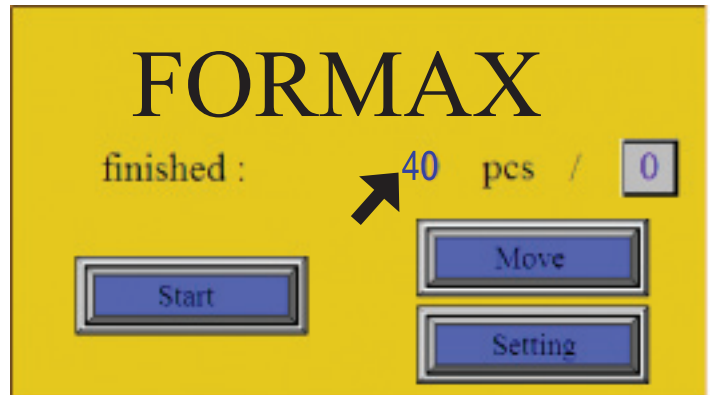

Fig. 6: Counter Reset
1. To reset the counter, press the blue number to the left of the "pcs" icon on the main screen (fig. 6), which is the number of pieces of paper that have been processed. A keypad will appear. Key in the number "0" and confirm it by pressing "ENTER". The Main screen menu will now read "0".